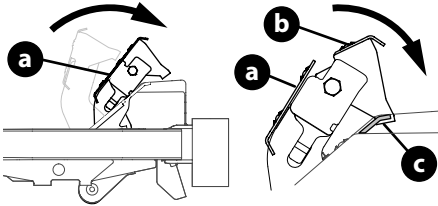

Figure 18
1. Push the brake pedal (a) all the way forward (Figure 18).